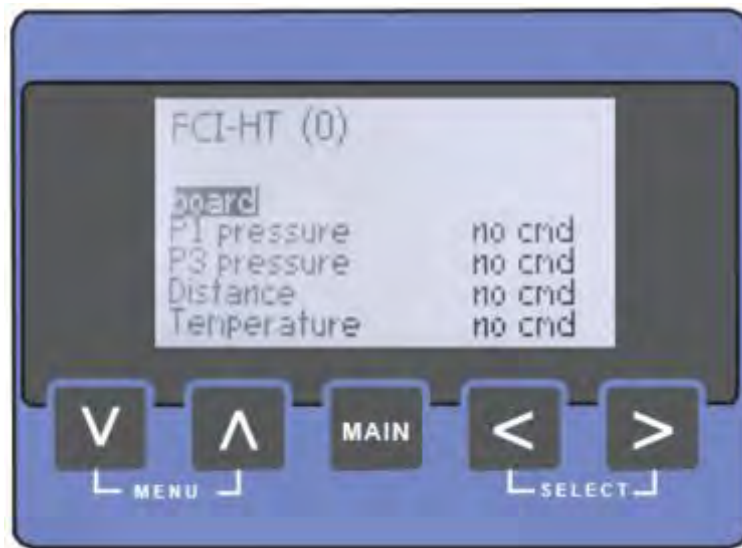

FIGURE 4-26 The function list screen
- The [\[function list\]](#) screen (see FIGURE 4-26) displays all the *available functions* of the previously selected board. You can navigate through the function list by using the up and down buttons. You can return to the [\[board list\]](#) screen by pressing the left button. A function can be selected by simultaneously pressing the left + right button. If a